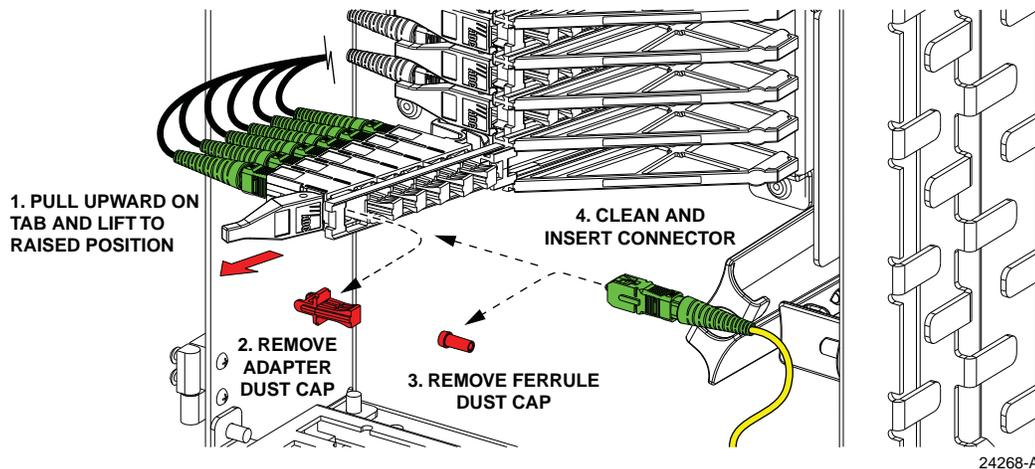

Figure 58. Adapter Pack Raised to Access Position
3. Pull upward on the small tab on top of the sliding adapter pack and lift the adapter pack to the raised position as shown in Figure 58.
7. Insert the splitter output fiber connector into the bulkhead adapter (see Figure 58).